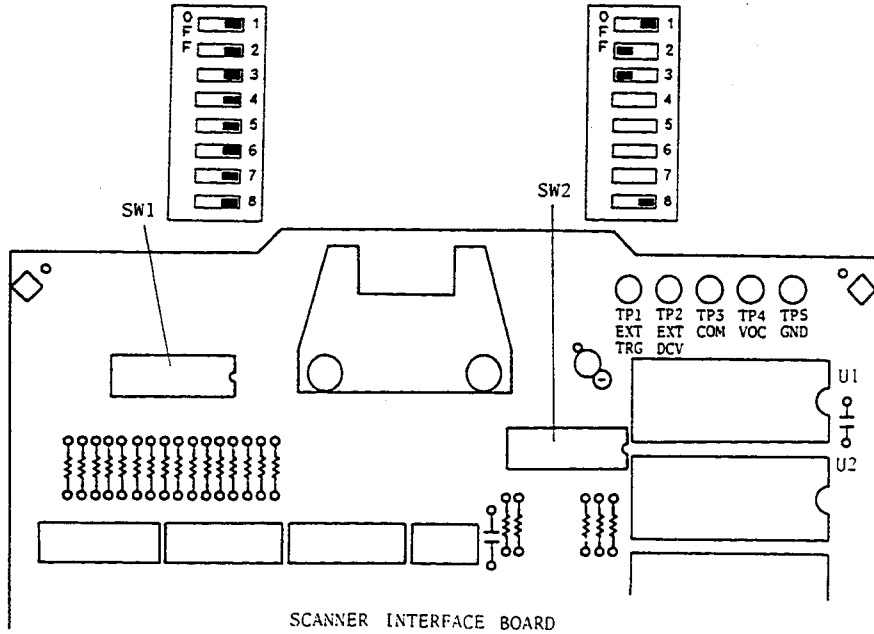

Figure 1-27. SW1 and SW2 Settings
4. Set SW1 and SW2 on the scanner interface board as shown in Figure 1-27. Figure 1-27 shows the switches settings when the board is shipped from the factory.